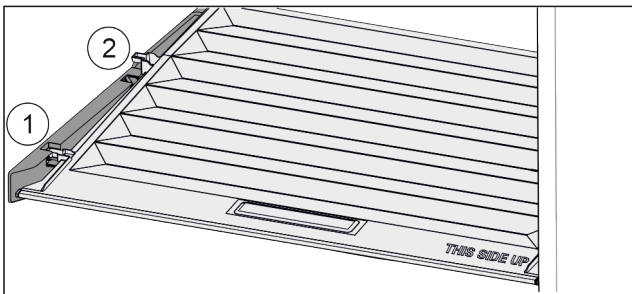

Fig. 23
- ▶ Pull the lid up at the front to the opening in the retaining parts Fig. 23 (1).
- ▶ Lift from the back and pull it up and out Fig. 23 (2).